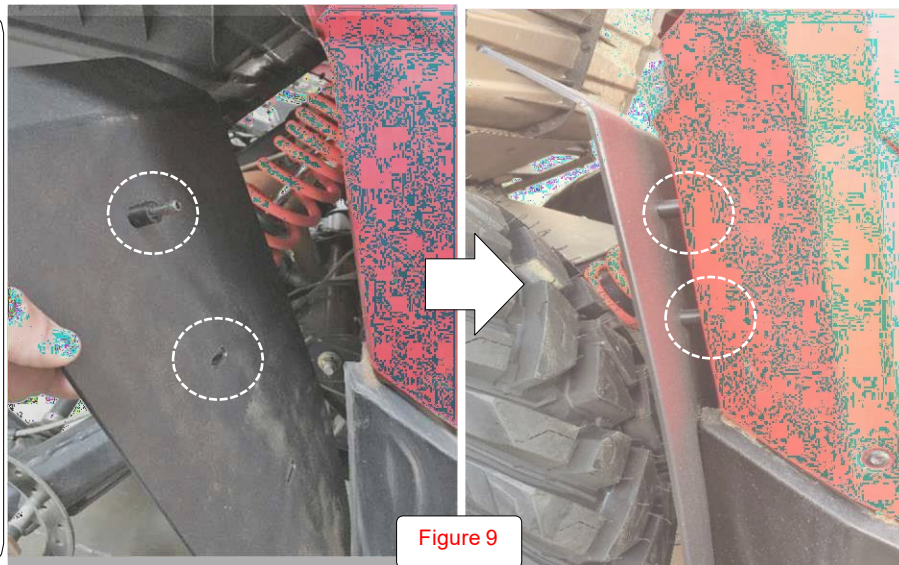

Figure 9
- 11) Insert (1) 1-1/4" bolt with a washer into the upper holes circled in **Figure 9**.
- 12) Add (1) spacer to each bolt as shown.
- 14) Install (1) washer and a lock-nut. Adjust the lower fender for the best possible fitment and tighten down the hardware.